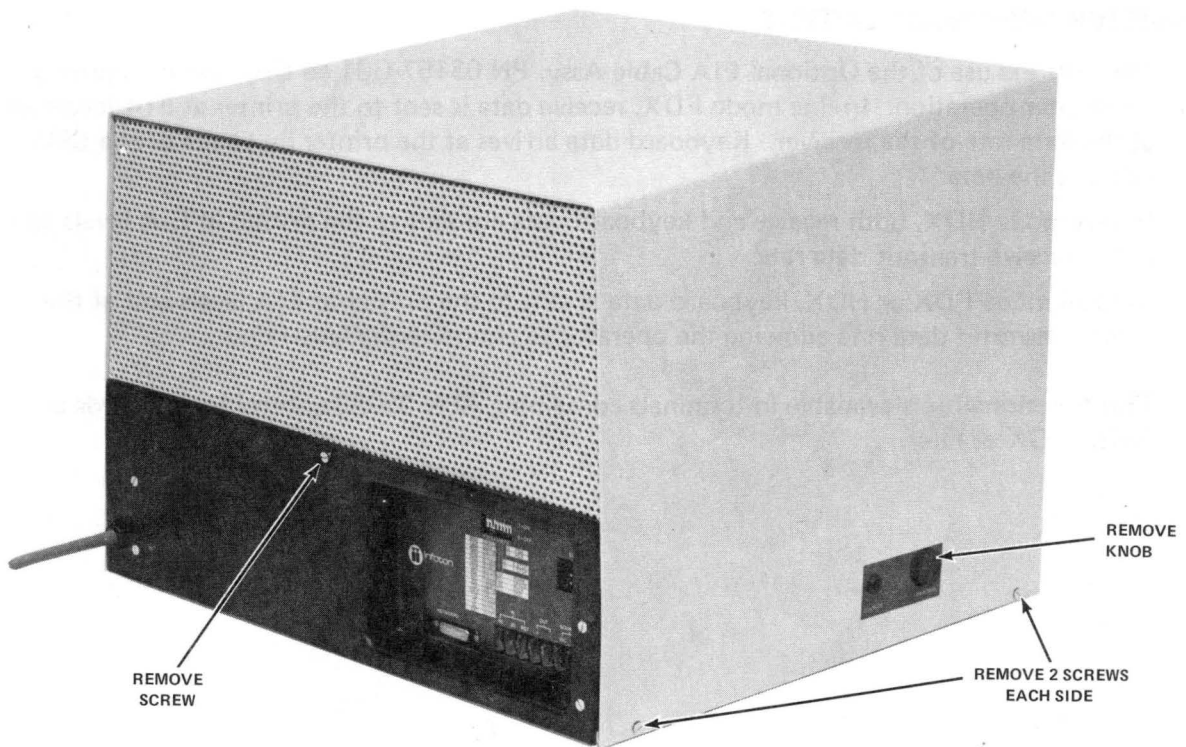

Figure 13 Cover Removal
4.1.1 Removal of Cover (Figure 13)